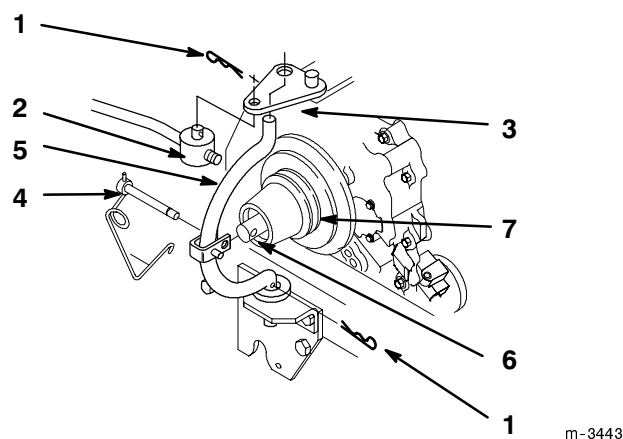

Figure 17
3. Remove hairpin cotters from trunnion and bottom of yoke (Fig. 17).
4. Unlatch and remove clevis pin that secures yoke assembly to clutch shaft. Pivot yoke out and forward to remove from clutch shaft and engagement plate (Fig. 17).
5. Place belt in pulley groove, going between clutch yoke and engagement plate (Fig. 17).
6. Assemble yoke and engagement plate and attach clevis pin, trunnion and hairpin cotters to secure (Fig. 17).